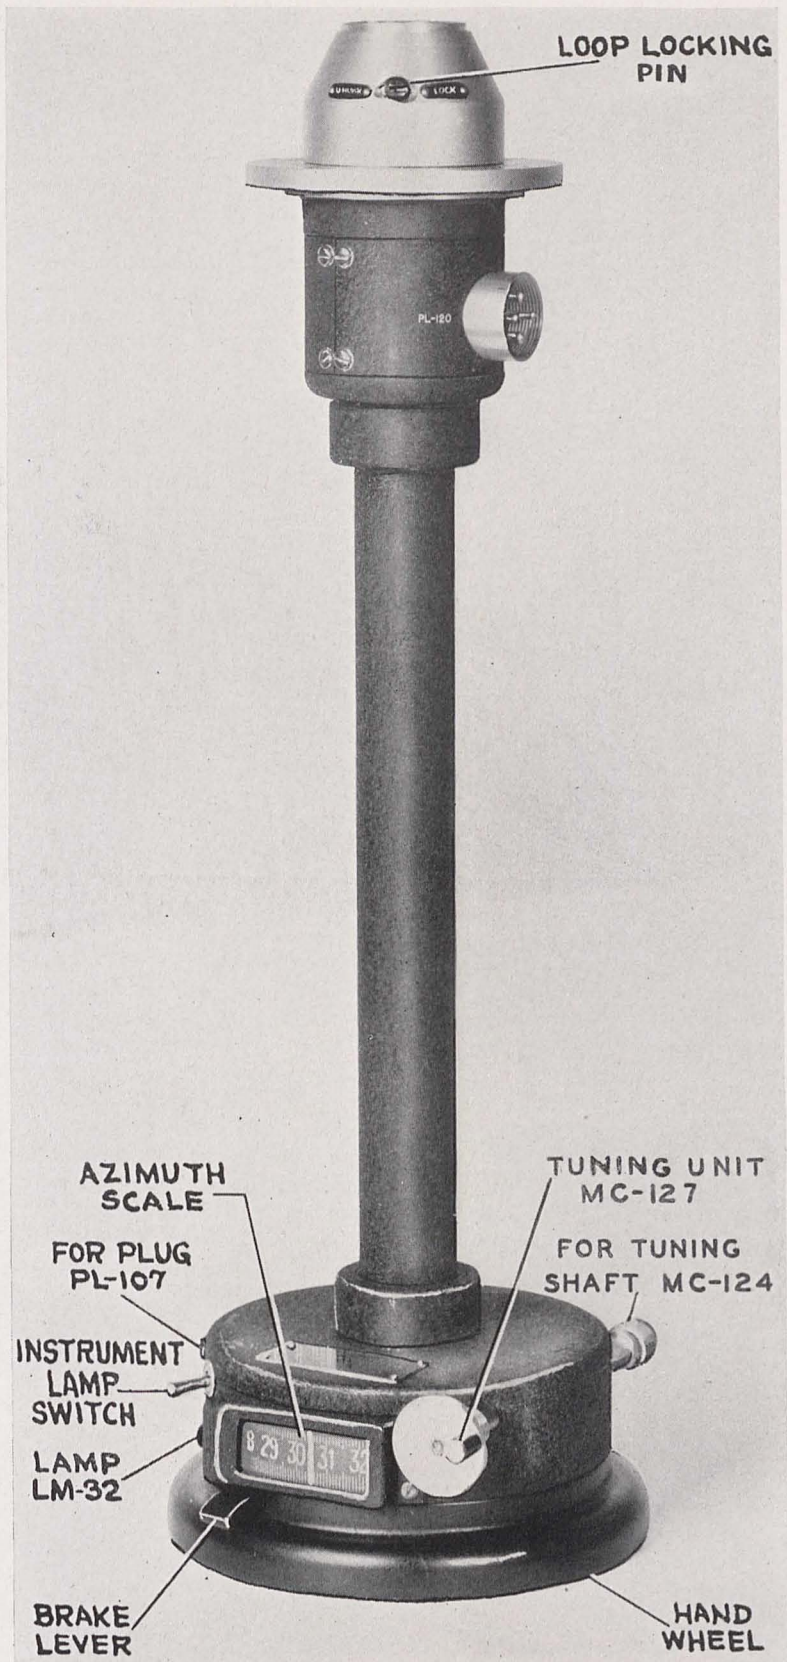
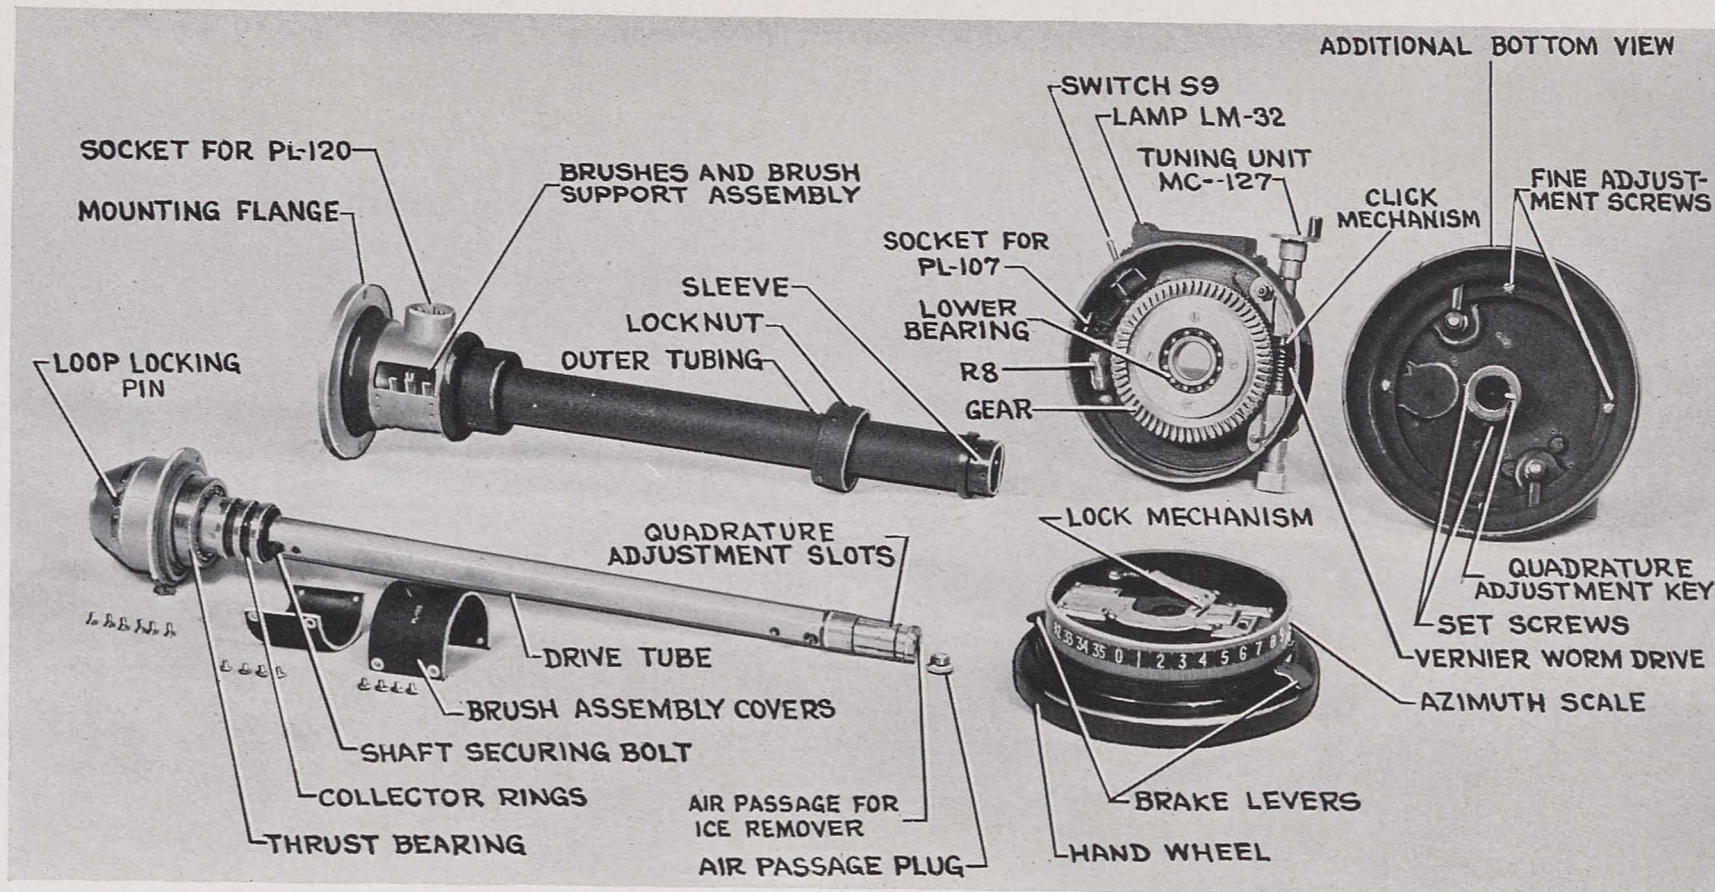

Figure 14—Loop Mounting GS-8-A (Rotatable Loop) Assembly View
Figure 15—Loop Mounting GS-8-A (Rotatable Loop) Disassembly View
- 2-5 **LOOP MOUNTING GS-8-A (ROTATABLE LOOP).**—This mounting includes Lamp LM-32 and Tuning Unit MC-127. This mounting permits continuous rotation of the loop and determination of its angular position with respect to the center line of the aircraft fuselage. (See Figures 14 and 15.) The mounting is interchangeable with Loop Mounting GS-7-A (fixed loop). A brake mechanism, lever operated, is provided for locking the loop in any position and may be conveniently operated from any position of the handwheel which rotates the loop. A vernier adjustment is also provided for rotating the loop and is engaged when the brake lever is in the On position. This vernier adjustment has a gear ratio of approximately 120 to 1 and is provided with a fitting at each end for the attachment of Tuning Unit MC-127 to operate the vernier. An adjustable click mechanism prevents drift of the vernier control under vibration. (See Figure 15.) The azimuth scale is graduated in 1 degree steps from 0 to 360 degrees with the 10-degree graduations numerically marked from 0 to 350 degrees. When installed, rotation of the left side of the handwheel away from the operator causes an increase in scale readings. The azimuth scale and brake assembly are enclosed in a protective housing containing a glass window through which the index and scale are visible. A Lamp LM-32, under control of a toggle switch and connected by Plug PL-107 to a 14.25-volt power source, provides the illumination for the scale. The index and azimuth scale are adjustable to any one of four equally spaced positions with respect to the loop to compensate for variations in installations. These four positions are so spaced that the scale may be set at zero with the plane of the loop perpendicular to the axis of the fuselage. In addition to this quadrature adjustment, the scale is capable of fine adjustment with respect to the loop for ± 15 degrees. When Loop LP-13-A is in place, it is secured by a lock which may be operated by a screwdriver. The lock is turned to the left to insert the loop and locks when turned one-half revolution to the right. The lock is prevented from creeping under vibration by means of a spring-actuated pin which fits into the screwdriver slot in the head of the lock pin. A hole, normally plugged, is placed in the base of the mounting and serves for connection of an air hose when loops equipped with ice removers are used.